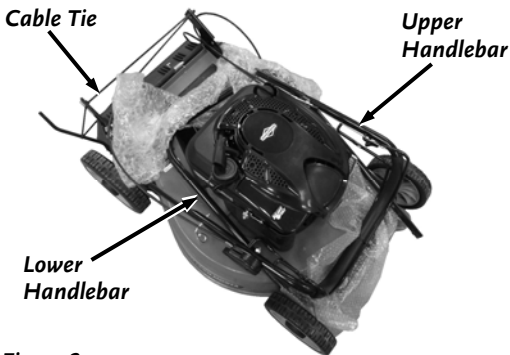

Figure 3
1. Cut the Cable Tie that is securing the Height Adjust Lever to the Handlebar Brackets (*Figure 3*). Remove the Lower Handlebar from the machine.